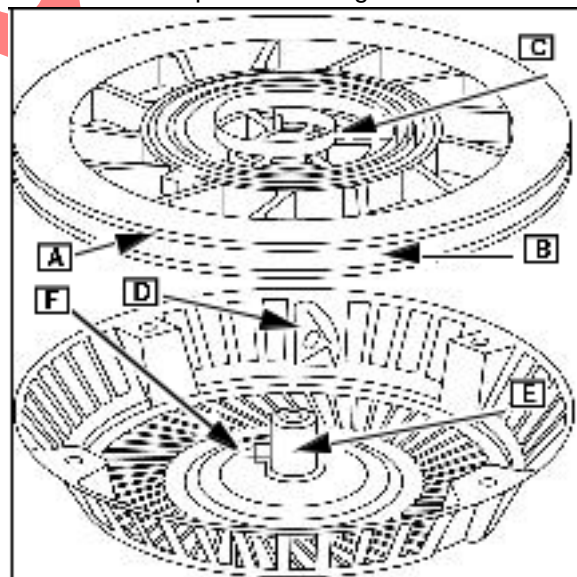

Fig. 6
Inspect pulley for wear, cracks, rough edges (A) or burrs in pulley groove (B) and wear on center hole ([C] Fig. 6).
Inspect starter housing for wear or sharp edges at rope eyelet (D), center pivot post (E), and inner spring anchor tab ([F] Fig. 6). Replace assembly if worn or damaged.